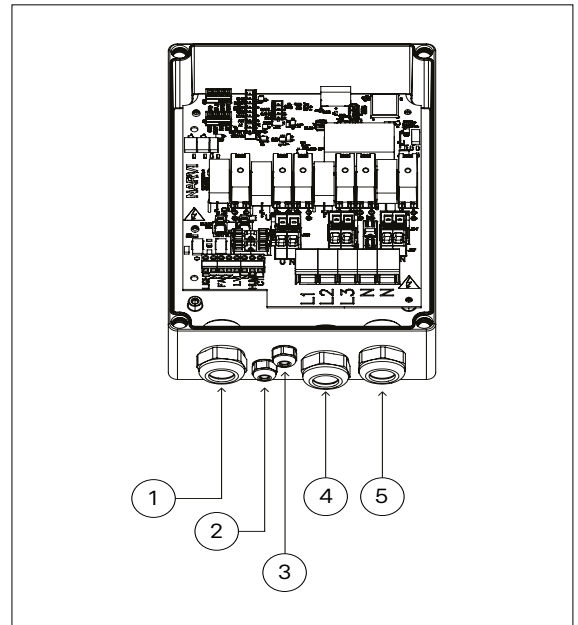
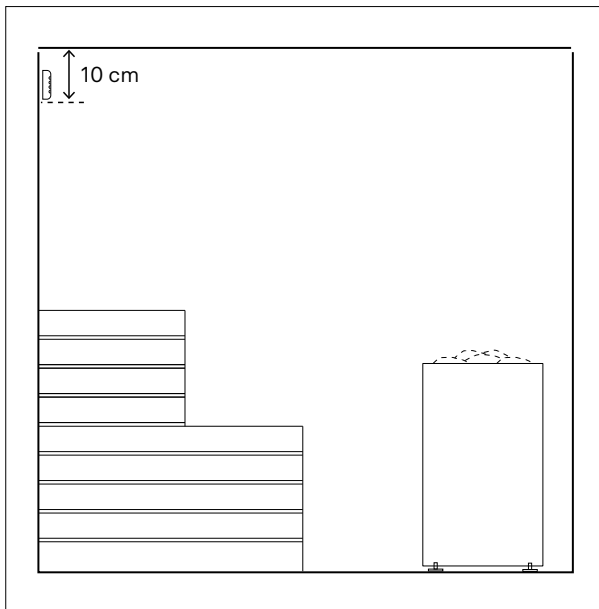
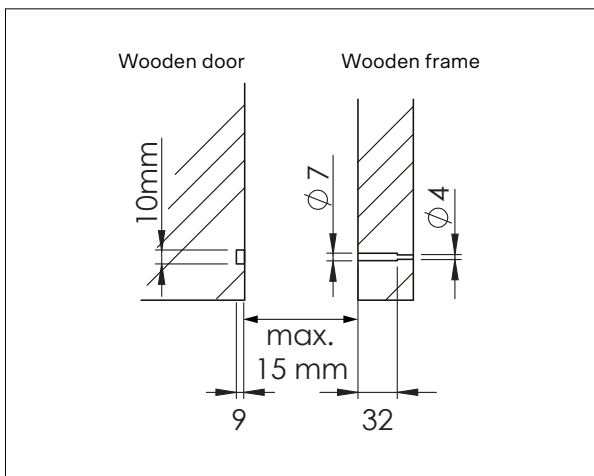

Figure 6.4-1 Cable entries for the power unit
Figure 6.7-1 Installation of the humidity sensor
Figure 6.8-3 The embedding of the door switch and the magnet
The humidity sensor is installed on the wall behind the benches, 100 mm from the ceiling (Figure 6.7-1).
connection box of the power unit through the designated conduit (Figure 6.4-1). The cable is connected to the connector according to the connection diagram (Section 5.3).
- The temperature sensor is supplied with a 6-meter cable (SIHF-O 4x0.25), which must not be extended. If a longer distance is required, an approved, continuous cable of the necessary length must be obtained. The sensor cable should be routed into the power unit's connection box through the designated conduit (Figure 6.4-1) and connected to the connector according to the connection diagram (Section 5.3). The sensor is attached to the wooden surface using the supplied screws (2 pcs $\text{Ø } 2.9 \times 16$), and for other surface materials, the mounting accessories are
The humidity sensor is a low-voltage component that is installed on the wall behind the sauna benches so that it is not directly exposed to steam or heat rising from the heater (Figure 6.7-1). The humidity sensor is supplied with a 6-meter cable (SIHF-O 4x0.25), which must not be extended. If a longer distance is required, a single continuous cable approved by the manufacturer must be used. The sensor cable should be routed into the power unit's connection box through the designated conduit (Figure 6.4-1) and connected to the connector according to the connection diagram (Section 5.3). The humidity sensor should be attached to the wooden surface using the supplied screws (2 pcs \varnothing 2.9x16), and for other surface materials, the mounting accessories are selected according to the surface material and mounting method.
The switch and magnet holders can be attached either with the supplied screws (pcs \varnothing 2.9x16) or with double-sided tape. The switch and magnet can also be embedded in the wooden door and frame according to the schematic diagram (Figure 6.8-3). The door switch cable (5 m) should be routed into the heater's connection box through the designated conduit (Figure 6.4-1) and connected to the connector according to the connection diagram (Figure 5.3). If necessary, the cable can be extended by making a joint according to installation standards.
- The lighting cable should be routed into the power unit's connection box through the designated cable gland (Figure 6.4-1) and connected according to the connection diagram (Section 5.3).
- The fan cable should be routed into the power unit's connection box through the designated cable gland (Figure 6.4-1) and connected according to the connection diagram (Section 5.3).